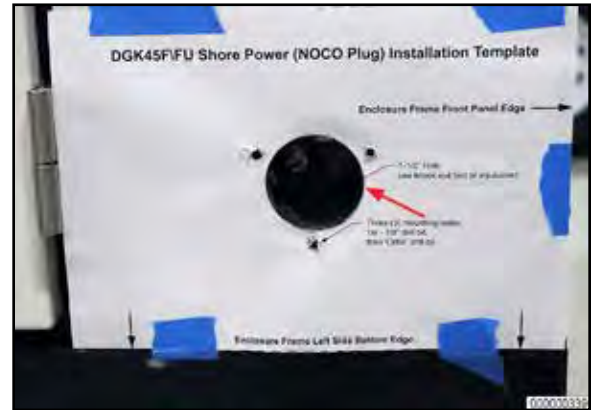

Figure 7
- **Step 11:** Using a 2" hole saw and drill or optional a 1-1/2" EMT knock-out tool, create the Shore Power plug hole. (Figure 7) Remove and discard paper template once operation is complete.